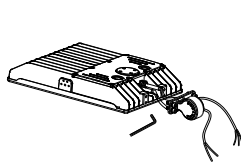

Figure 2
Step 2: Put input wire of the light across the bracket. (Figure 2)